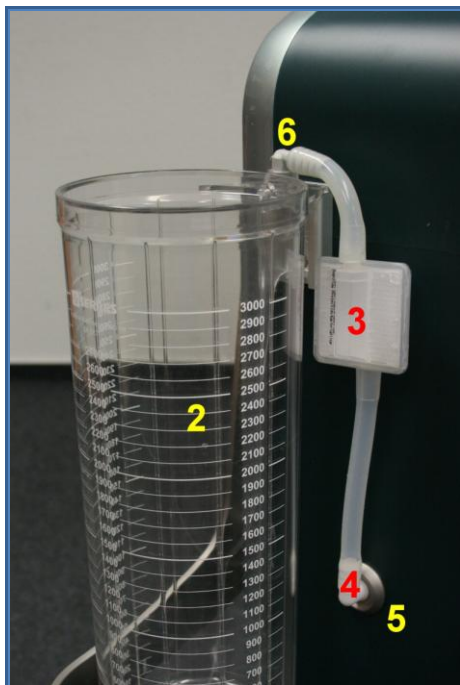

Fig. 4-7: Suction unit
- ➔ Connect the vacuum tubing with overflow/ bacteria barrier to the respective suction port at the bottom of the device (Fig. 4-7).
The plug-in coupling connector (4) must be attached to the suction port (5) on the device, the vacuum elbow connector (6) of the overflow / bacteria barrier must be attached to the suction container (Fig. 4-7).